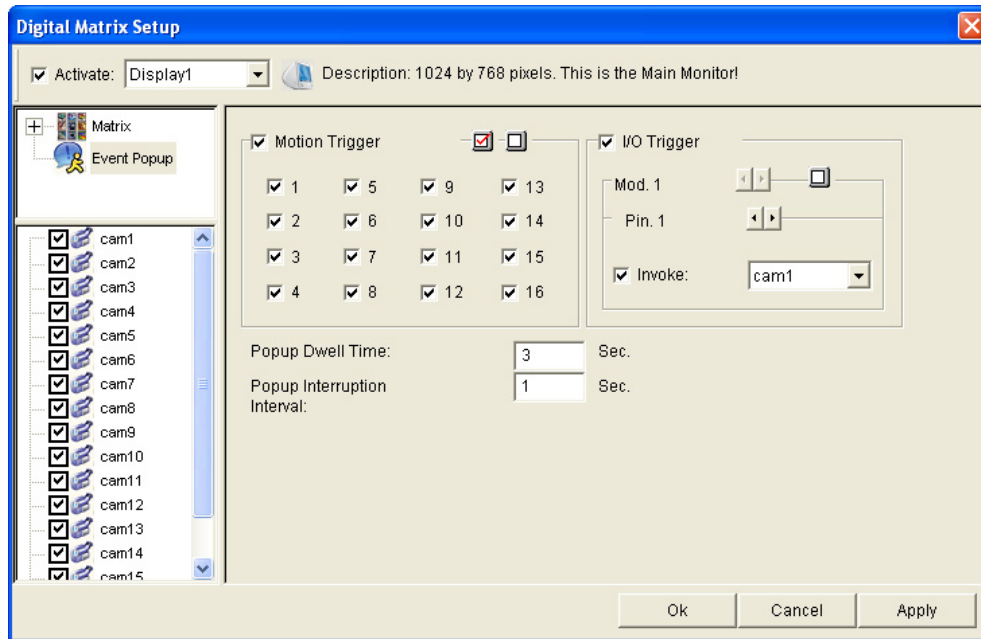

Figure 11-88
2. To configure pop-up alert, in the upper left column, click **Event Popup**. Figure 11-88 appears.